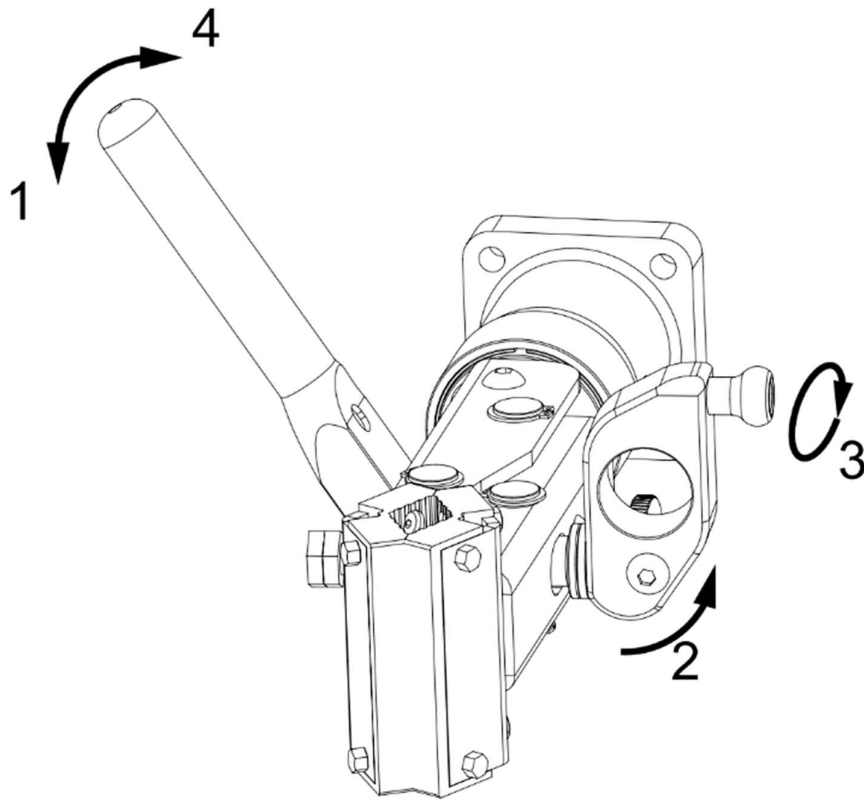

Figure 8: Clamp operation
- ◆ Release the rotation handle (**figure 8**, number 1) so that the clamp can adjust its position to the bike's seat/frame tube angle.
- ◆ Close the clamp by flipping the clamp handle 180° (2) and tighten the clamp by rotating the clamp handle clockwise (3).
- ◆ Close the rotation handle (4). It should be tight enough not to let the bike rotate under its own weight but light enough so you can open and close it with one hand easily. Overtightening may cause damage to the mechanism.